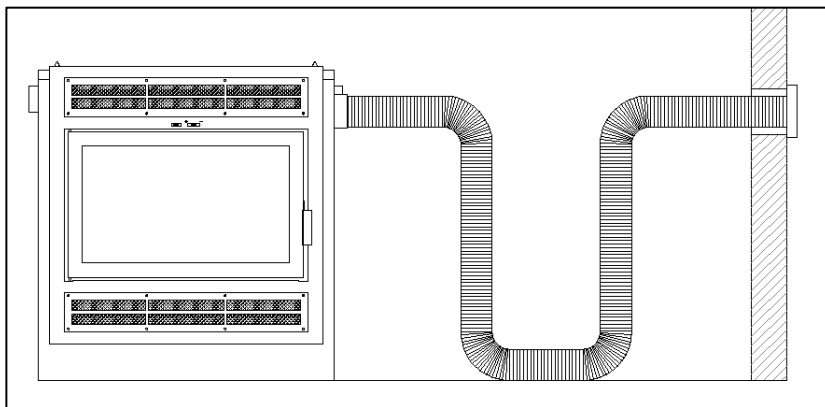

Figure 4-5: Installation of Fresh Air Kit
8. Make the electrical connections (Figures 4-5 and 4-6). Note that the power supply to the blower is 115V.